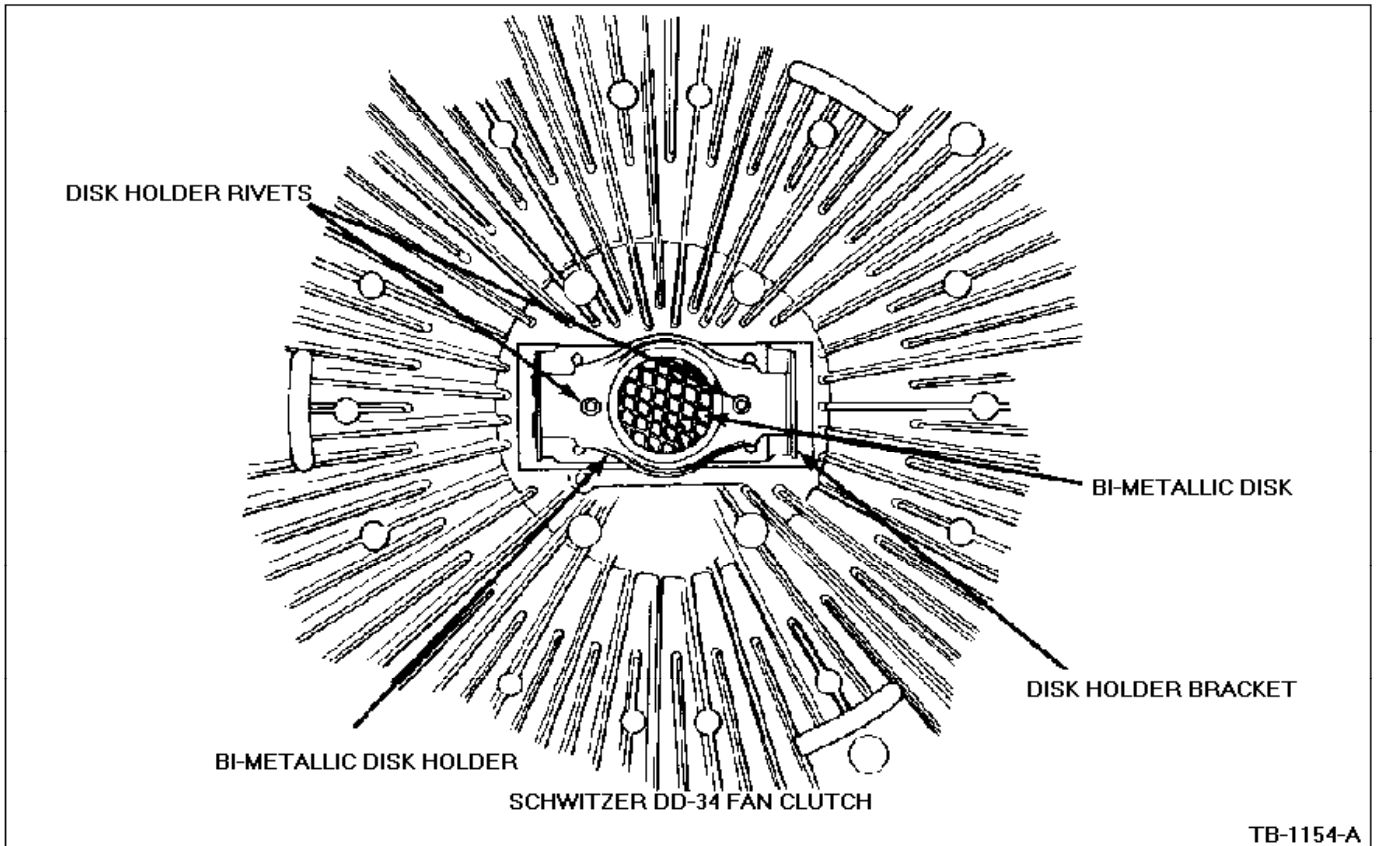
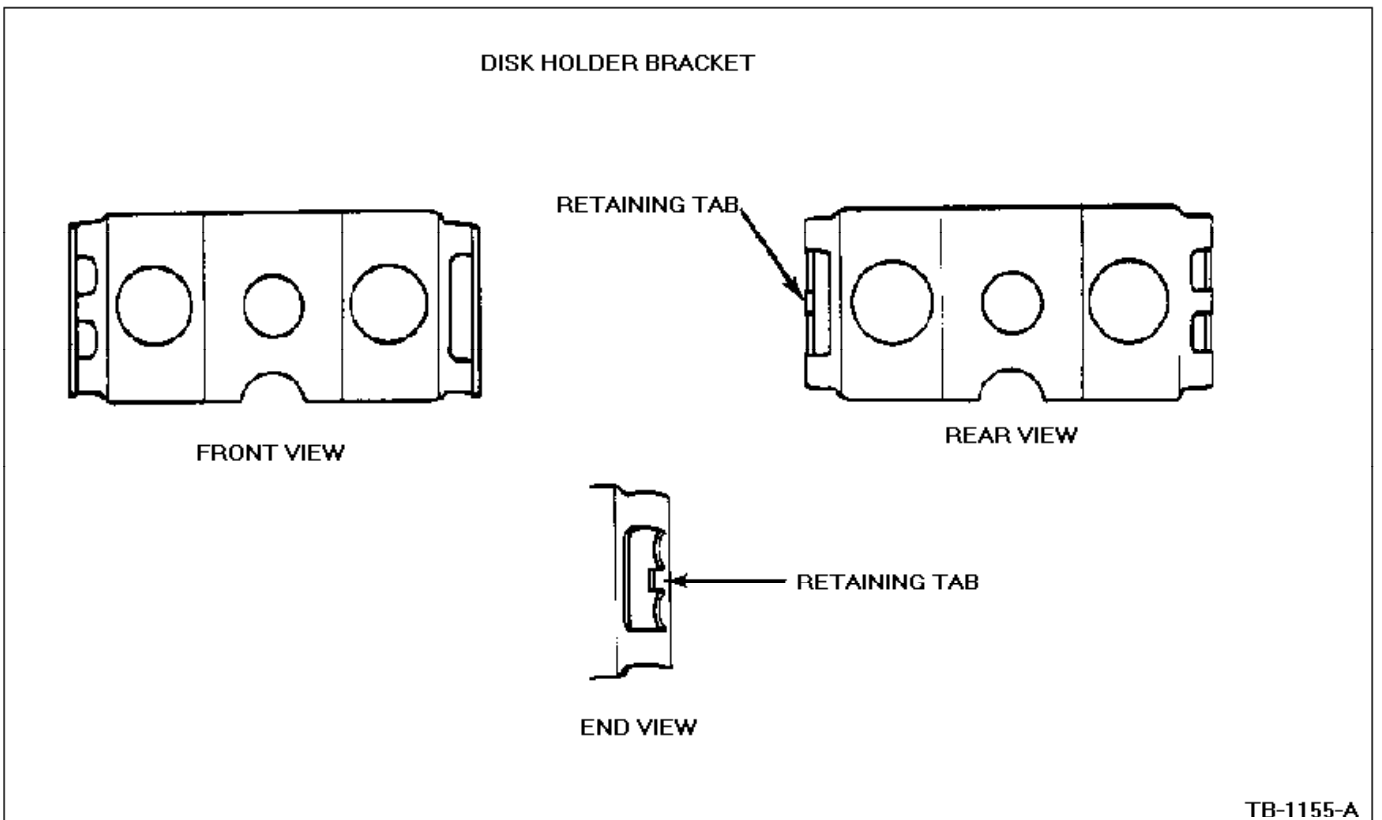

Figure 2 - Article 89-16-15
Figure 3 - Article 89-16-15
3. Remove the bi-metallic disk holder from the fan clutch by pressing down on the disk holder near the rivets, Figure 2. Do this until the disk holder right arm is below the retaining tab of the disk holder bracket, Figure 3.